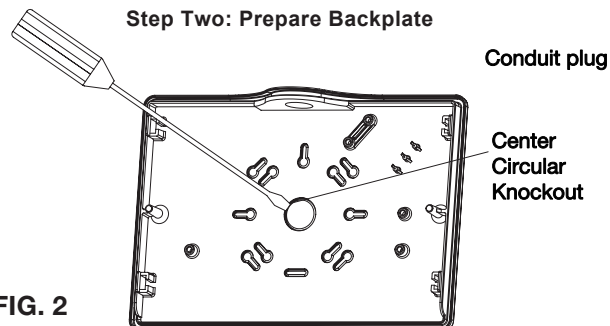

FIG. 2
2. Prepare backplate for wiring and mounting per Fig 2: